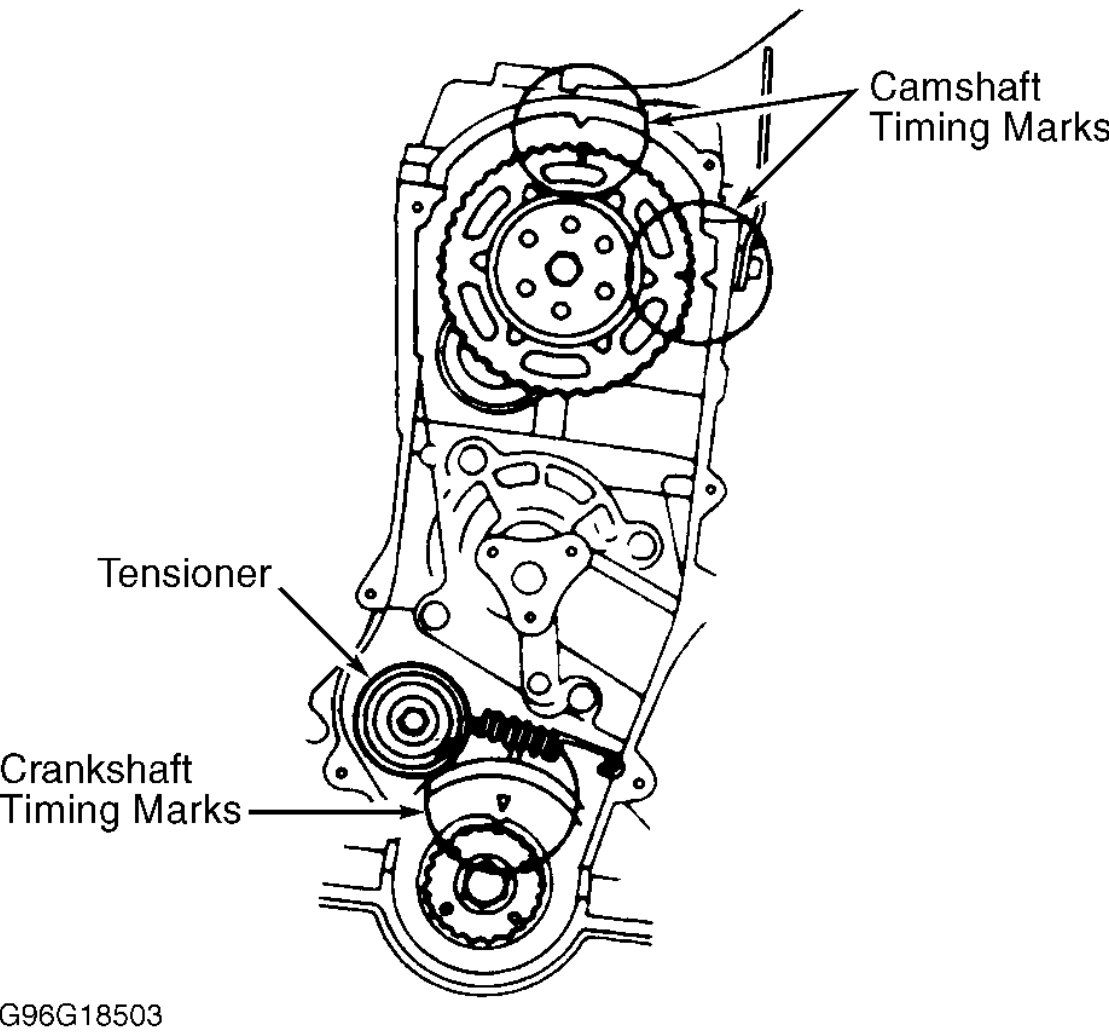

Fig. 3: Aligning Timing Marks
1. Ensure timing belt and sprockets are clean, and not worn or damaged. Align crankshaft and camshaft timing marks. See Fig. 3 . Position belt onto sprockets in original running direction.